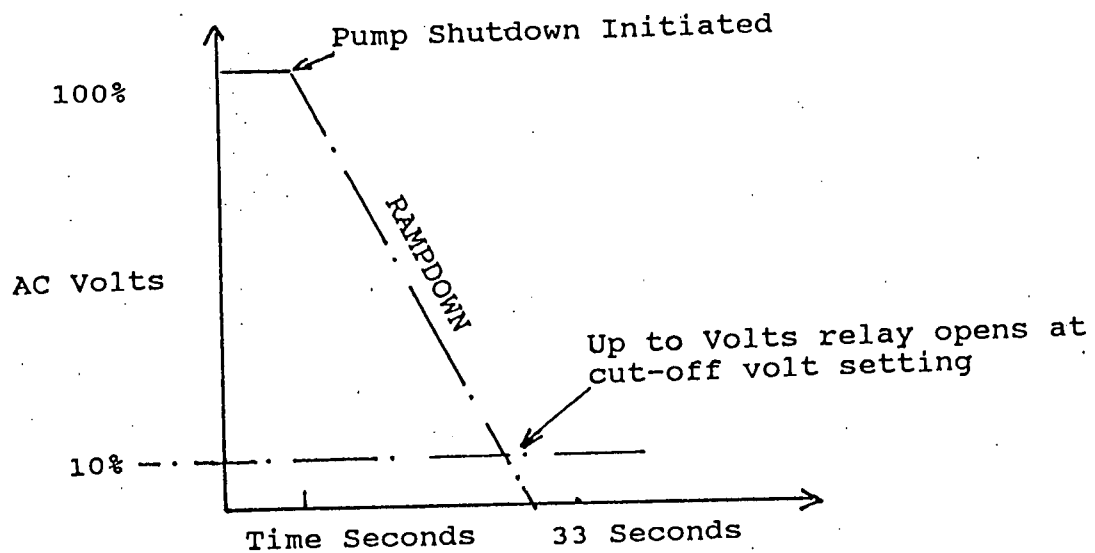

Figure 2
- .4 Set the Ramp Down potentiometer at mid-span (12 o'clock). This will set the deceleration profile as shown in Figure 2.